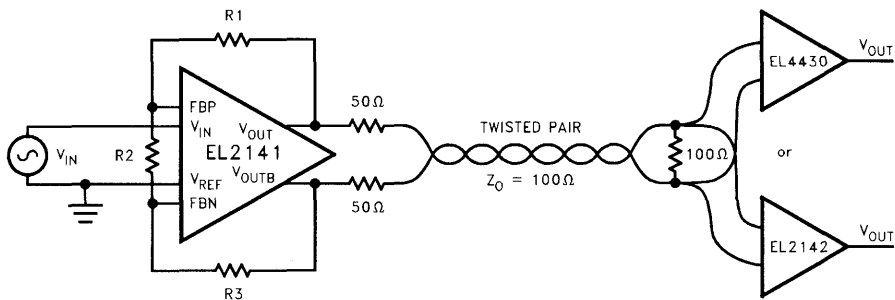

Figure 1. Typical Twisted Pair Application
**H2** The second harmonic arises from the input stage, and the lower the applied differential signal amplitude, the lower the magnitude of the second harmonic. For practical considerations of required output signal and input noise levels, the user will end up choosing a circuit gain. Referring to Figure 1, it is best if the voltage at the negative feedback node tracks the VREF node, and the voltage at the positive feedback node tracks the VIN node respectively. This would theoretically require that R1 + R2 = R3, although the lowest distortion is found at about R3 = R1 + (0.7\*R2). With this arrangement, the second harmonic should be suppressed well below the value of the third harmonic.